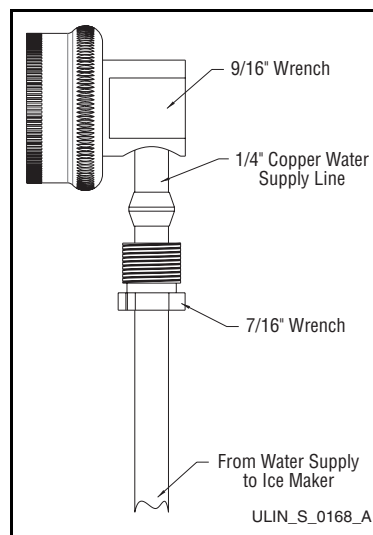

Figure 2
2. Locate the U-Line supplied garden hose fitting. Ensure the end of the copper tubing has been cut straight and free of burrs. Slide the compression nut and ferrule onto the copper tubing as shown (**Figure 2**). Push the assembly completely into the the garden hose fitting and tighten using the two wrenches. Wait to connect this assembly to the appliance until the drain connection is ready.